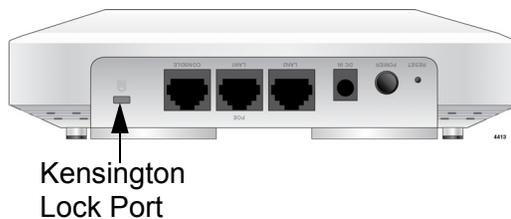

Figure 15. Kensington Lock Port Location
1. Follow the instructions provided with the vendor's anti-theft device packaging for the installation. Refer to Figure 15 for the Kensington lock port's location.